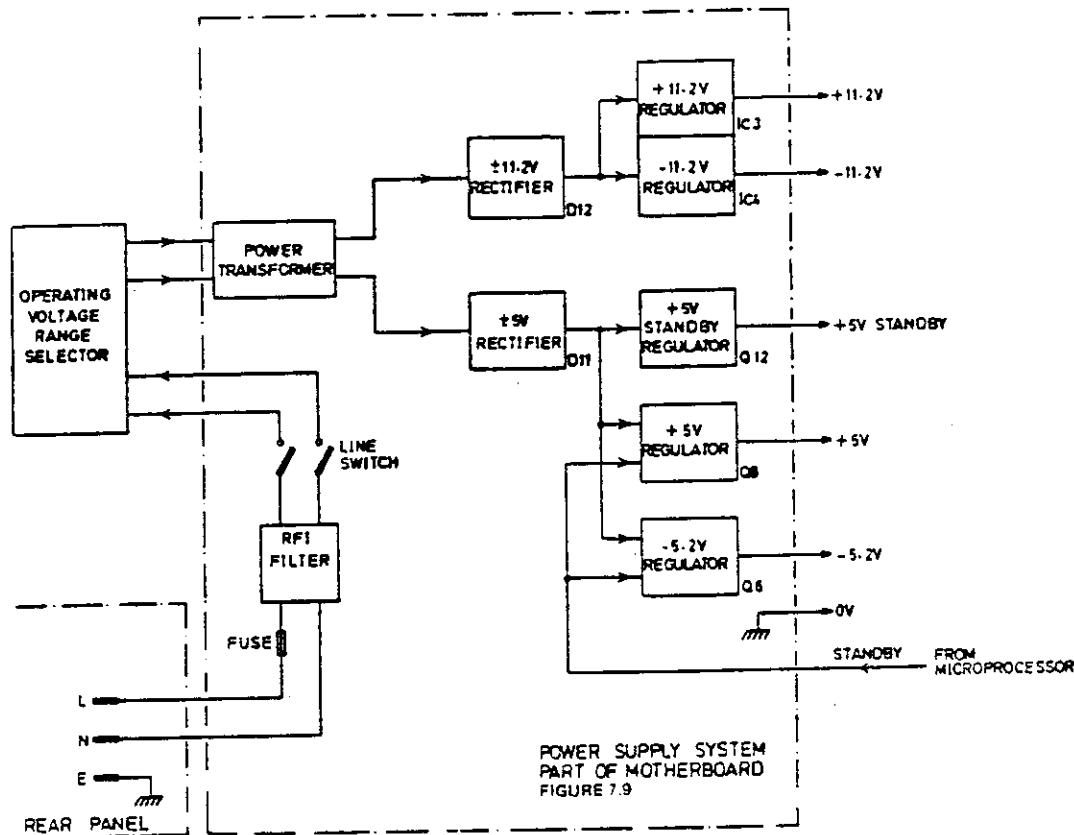

Figure 5.10 – Power-Supply-Block Diagram
5.3.8.1.1 A simplified diagram of the power supply block is given in Figure 5.10. The AC supply enters at a plug mounted on the rear panel and passes via a fuse and RFI filter, mounted on the motherboard, to the line switch.